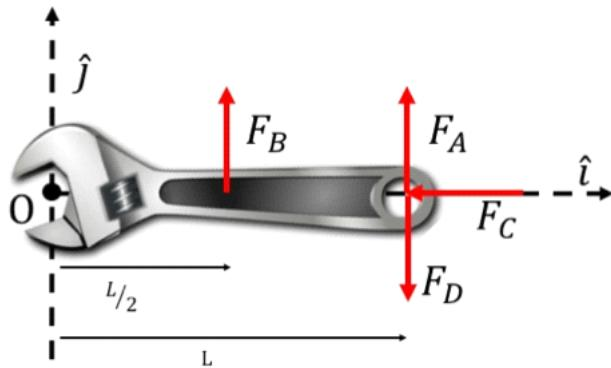

Figure 4.3: Wrench under different force conditions.
Consider the wrench shown in Figure 4.3 that rotates about the origin O .
1. For each force vector in Figure 4.3, find the associated torque about the origin O . Make sure to specify both the direction and magnitude of the torque.